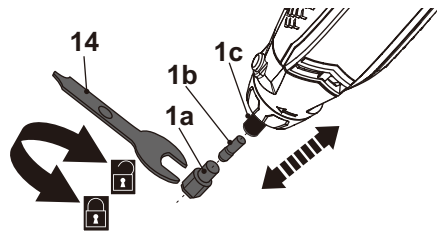

Fig. 3
- > Press the spindle lock button (2) and hold it in position while loosening the clamp nut (1a) with the wrench (14) (Fig. 3).
- > Check if the fitted collet (1b) is suitable for the desired tool attachment, if not remove the clamp nut (1a) and collet (1b) from the spindle (1c). Insert a suitable collet (1b) and refit the clamp nut (1a) (Fig. 3).